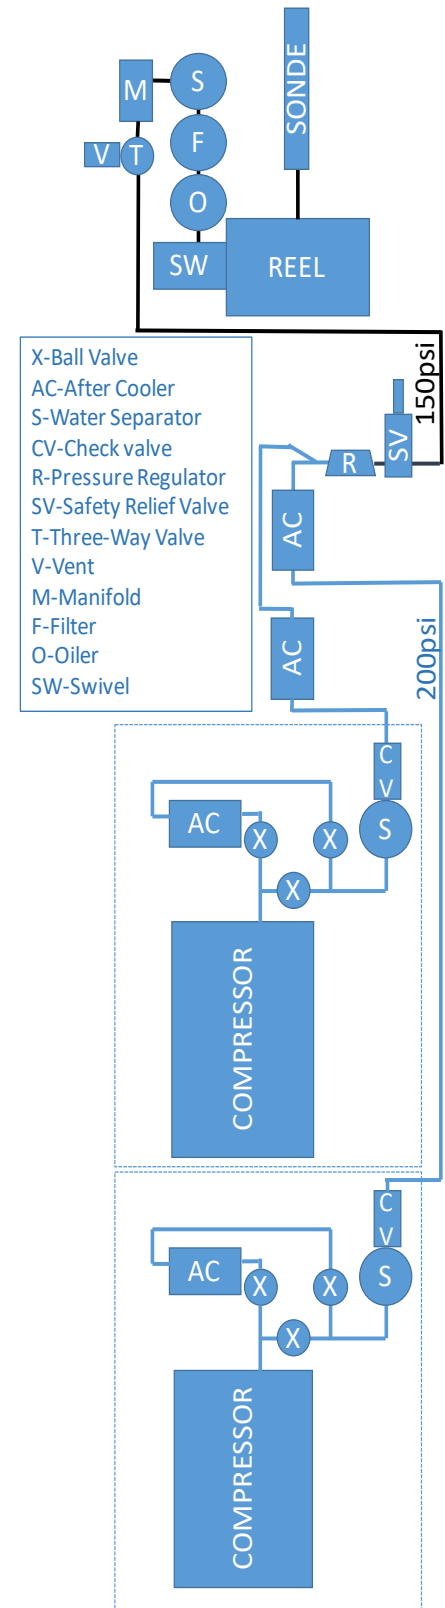

Fig. 6: Interconnects
- 10) **Assemble compressed air circuit** as shown at right. Fig. 6.